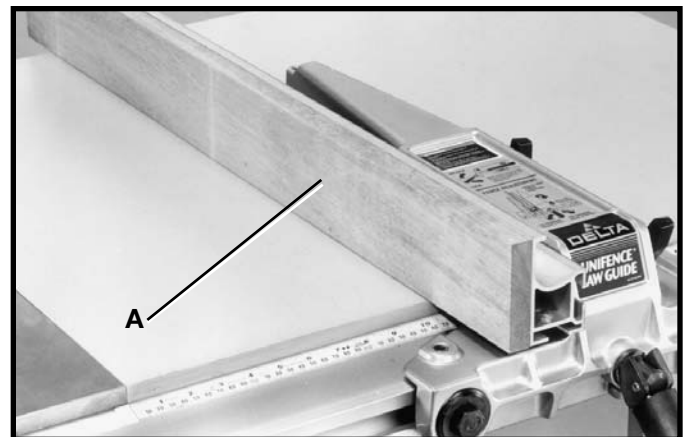

Fig. 130A
Some special operations (when using the moulding cutterhead) require the addition of a wood facing (A) Fig. 130A to one side of the rip fence. The wood facing is attached to the fence with wood screws through holes drilled in the fence. Stock that is 3/4 inch is suitable for most work, although an occasional job may require one-inch facing.